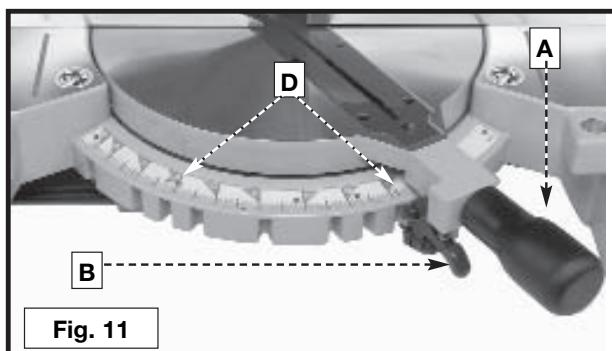
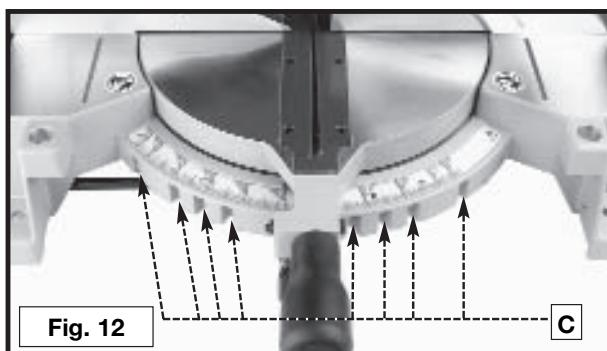

Fig. 11
Fig. 12
Your miter saw will cut any angle from a straight 90° cut to 47° right and left. Loosen the lock handle (A) Fig. 11 one or two turns, depress the index lever (B), and move the control arm to the desired angle. **TIGHTEN THE LOCK HANDLE (A)**.
The miter saw is equipped with positive stops at the 0°, 15.0°, 22.5°, 31.62° and 45° right and left positions. Loosen the lock handle (A) Fig. 11, and move the control arm until the bottom of the index lever (B) engages into one of the positive stops (C) Fig. 12. **TIGHTEN THE LOCK HANDLE (A)** Fig. 11. To disengage the positive stop, depress the index lever (B).
In addition, an indicator (D) Fig. 11 is provided on the miter scale at the 33.9° right and left miter positions for cutting crown moulding. (Refer to the "CUTTING CROWN MOULDING" section of this manual).
**IMPORTANT: Always tighten the lock handle (A) Fig. 11 before cutting.**